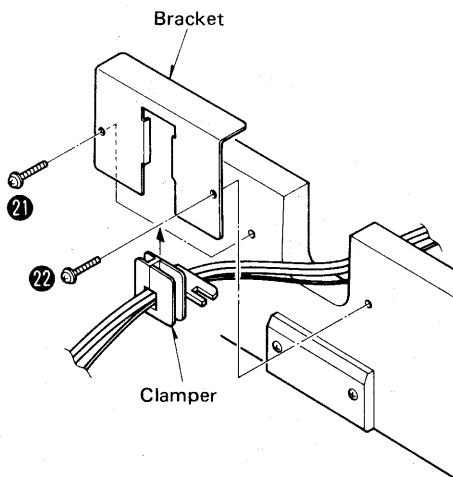

Fig. 5
2. Remove the 2 bracket setscrews (Fig. 5 : 21, 22) and the bracket.